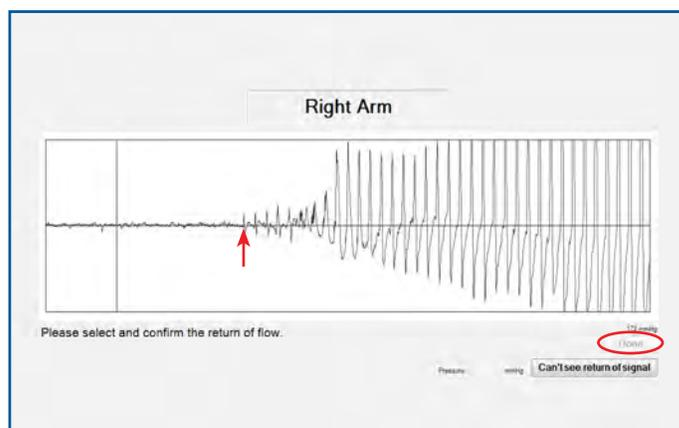

FIGURE 1.16 - Right Arm -Return of Flow Marking and “Done”
16. The PPG Pulse screen will appear. Click the point of return of flow as detected by the PPG probe (Figure 1.16). If a PPG probe is not available, the user may skip the confirmation of return of flow. However, this
measurement is recommended, as it provides additional clinical information and supports pressure accuracy. Click “Done” to continue. (Figure 1.16).